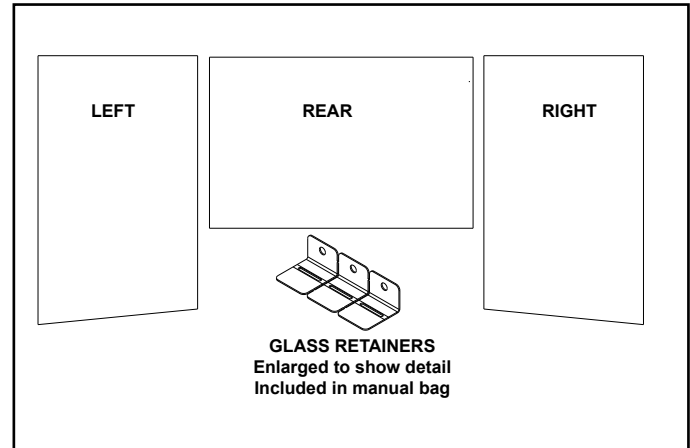

Figure 11.1 Black Glass Refractory Components
2. The three glass panels are shown in Figure 11.1. Note that the left and right panels are different and not interchangeable. Panels are reversible. Choose black reflective or matte finish side for installation.